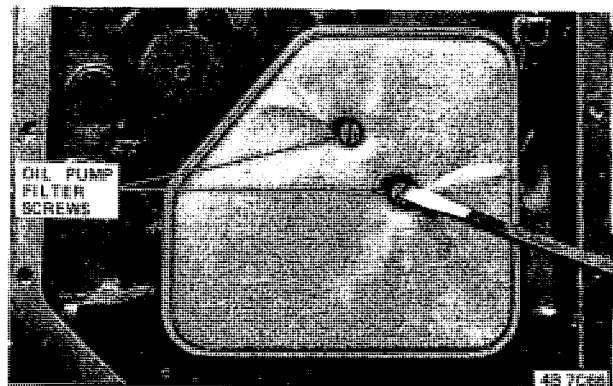

Figure 7C-24
2. Remove filter assembly and gasket from valve body. See Figure 7C-25.